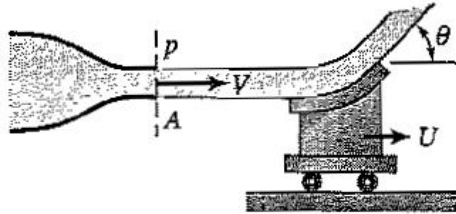

Figure P3.60
3.60 Water from a stationary nozzle impinges on a moving vane with a turning angle of $\theta = 60^\circ$, as shown in Figure P3.60. The vane moves at a constant speed $U = 10 \text{ m/s}$, and the jet exit velocity is $V = 30 \text{ m/s}$. The nozzle has an exit area of 0.005 m^2 . Find the force exerted by the fluid on the vane required to keep U constant.